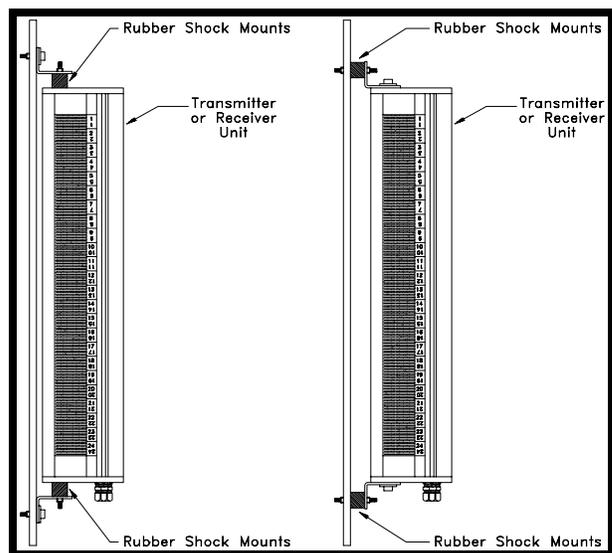

Figure 3.5: Use of rubber shock mounts.
7. Mount the Black Max main transmitter and receiver units on the rubber shock mounts provided in the shipment box using one of the two mounting methods shown in Figure 3.5.